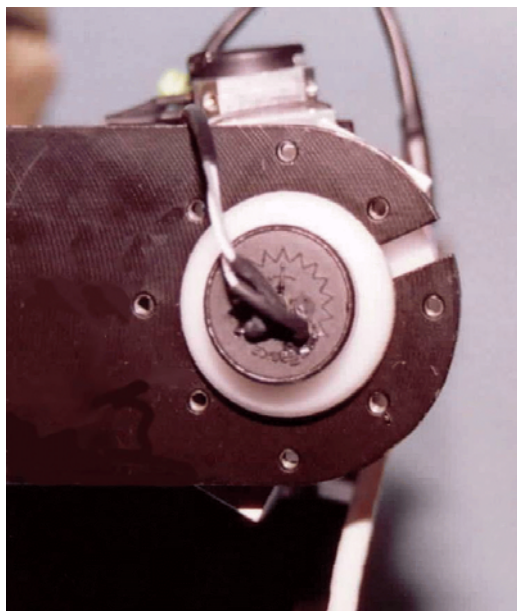

Figure 10.12- Align potentiometer so that the arrow is pointing up
11. Rotate the flanged surface of the bushing until the engraved arrow is pointing upwards as shown in **Figure 10.12**. The orientation of the arrow will ensure proper operation of the yoke axis rotary potentiometer during the dynamic test event.